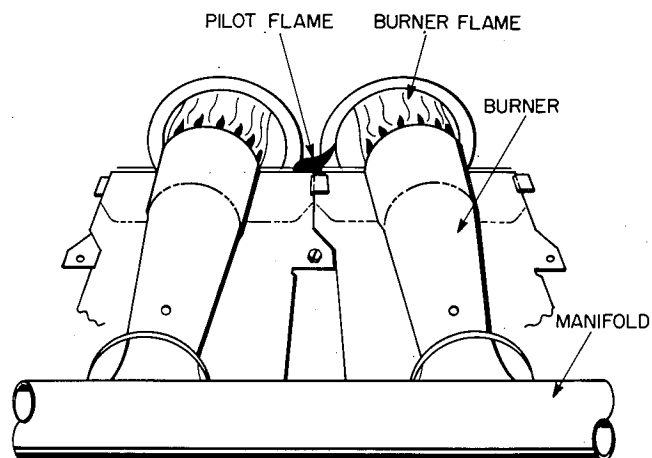

Fig. 9—Burner Flame
21. Check furnace operation through two complete operating cycles. Look through sight-glass in burner enclosure to check burners. Burner flames should be clear blue, almost transparent. (See Fig. 9.)